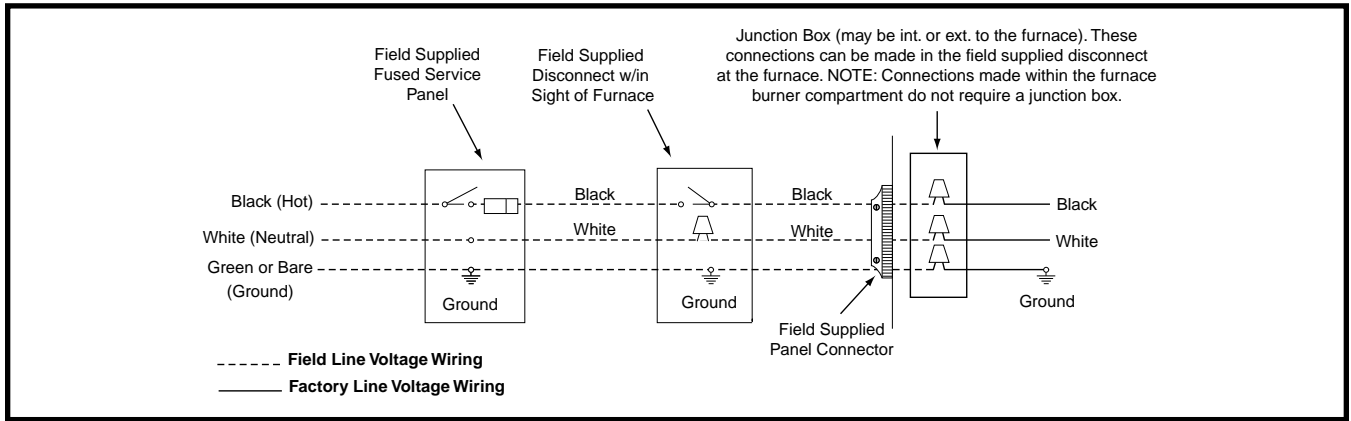

Figure 38. Line Voltage Field Wiring
- An electrical disconnect must be installed readily accessible from and located within sight of the furnace. See Figure 38 \(page 32\) or the wiring diagram label inside of the control door. Any other wiring methods must be acceptable to authority having jurisdiction.
- Proper line voltage polarity must be maintained in order for the control system to operate correctly. Verify the incoming neutral line is connected to the white wire and the incoming “hot” line is connected to the black wire. The furnace will not operate unless the polarity and ground are properly connected as shown in Figure 38.